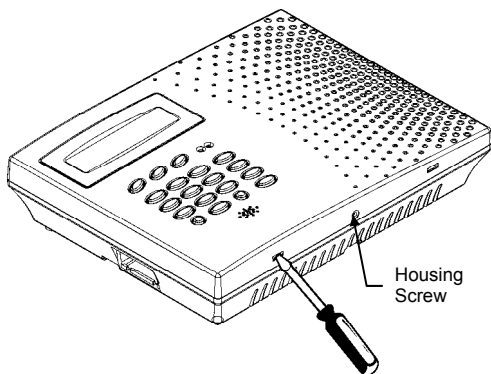

Figure 2.4: Opening the Housing
3. Using a screwdriver carefully press the release tabs as shown in Figure 2.4.
7. Connect the small flat cable between the GSM800 PCB (5) and the Control Panel (Main Board) PCB.
8. Place the SIM card in the SIM card holder (1).